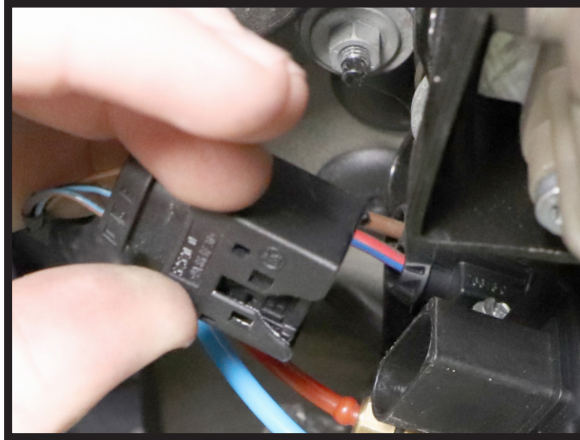

FIGURE 12
4. RECONNECT ELECTRICAL CONNECTION. (FIGURE 12)